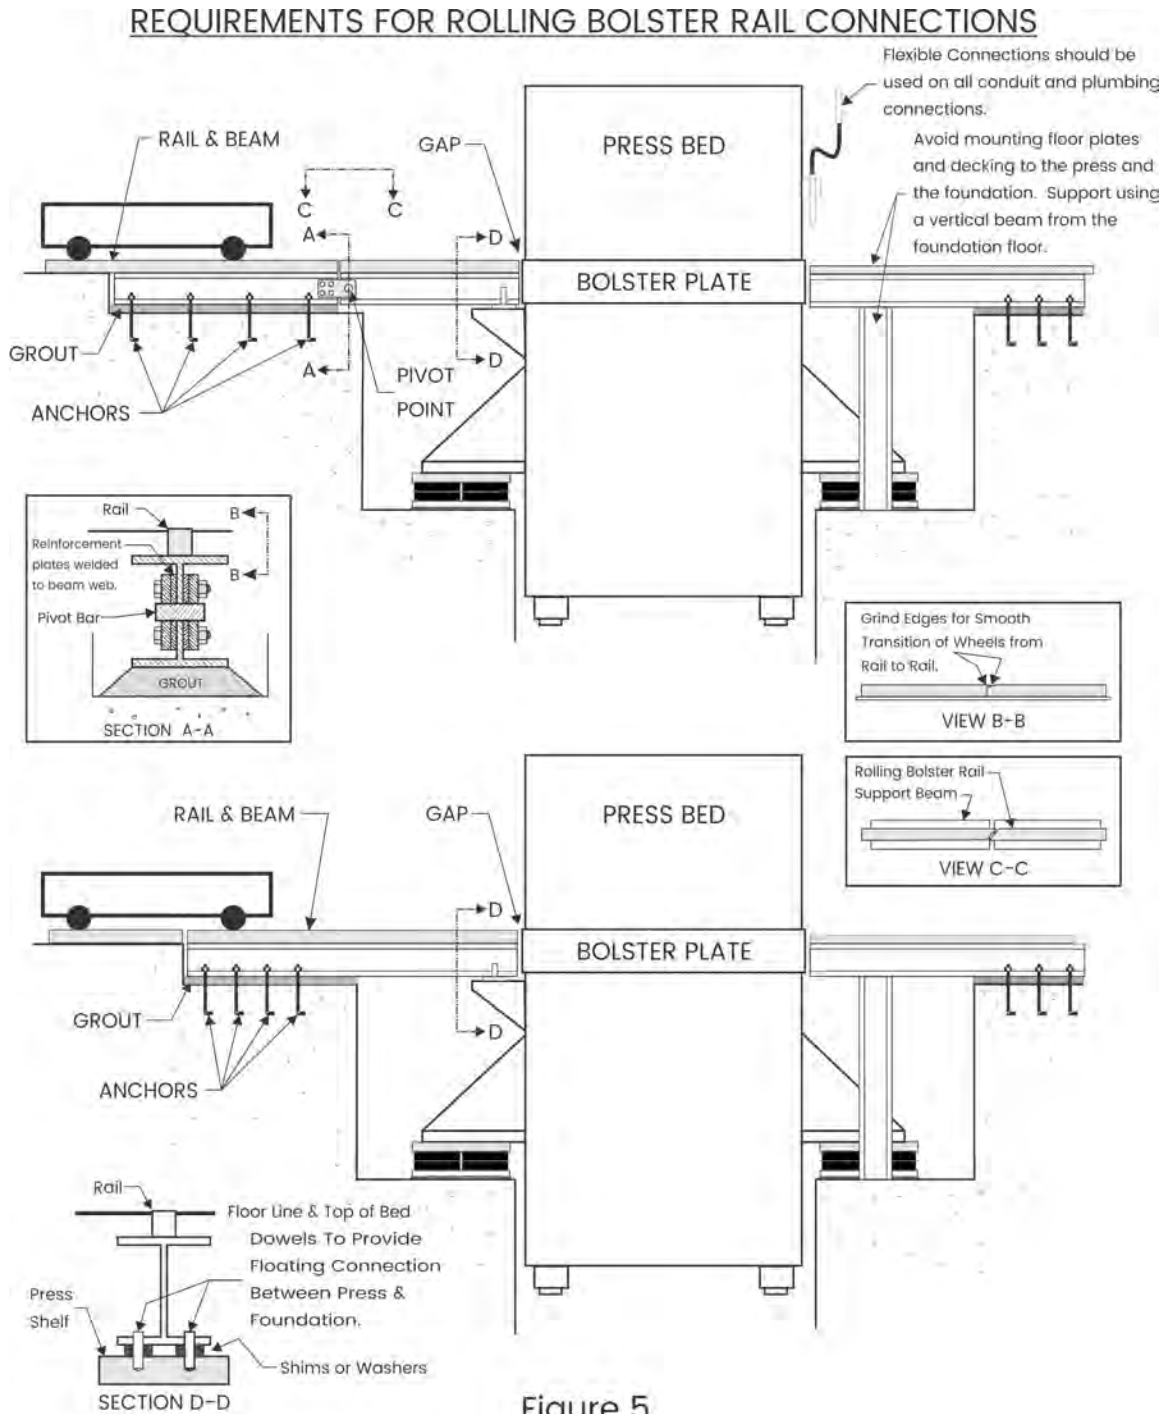

Figure 5
9. If rolling bolster plates or die carts are going to be used, they should be installed in accordance with Figure 5. Since the isolation elements are resilient, they will deflect during loading and unloading of the die. The first method shown is preferred since rolling bolster beam floats with a changing press elevation, negating any alignment problems.